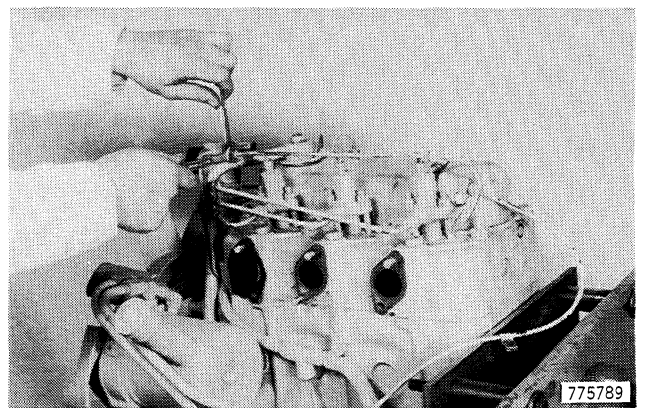

Figure 43
- 18. Disconnect the injector return tube at the front of the engine, Figure 43.